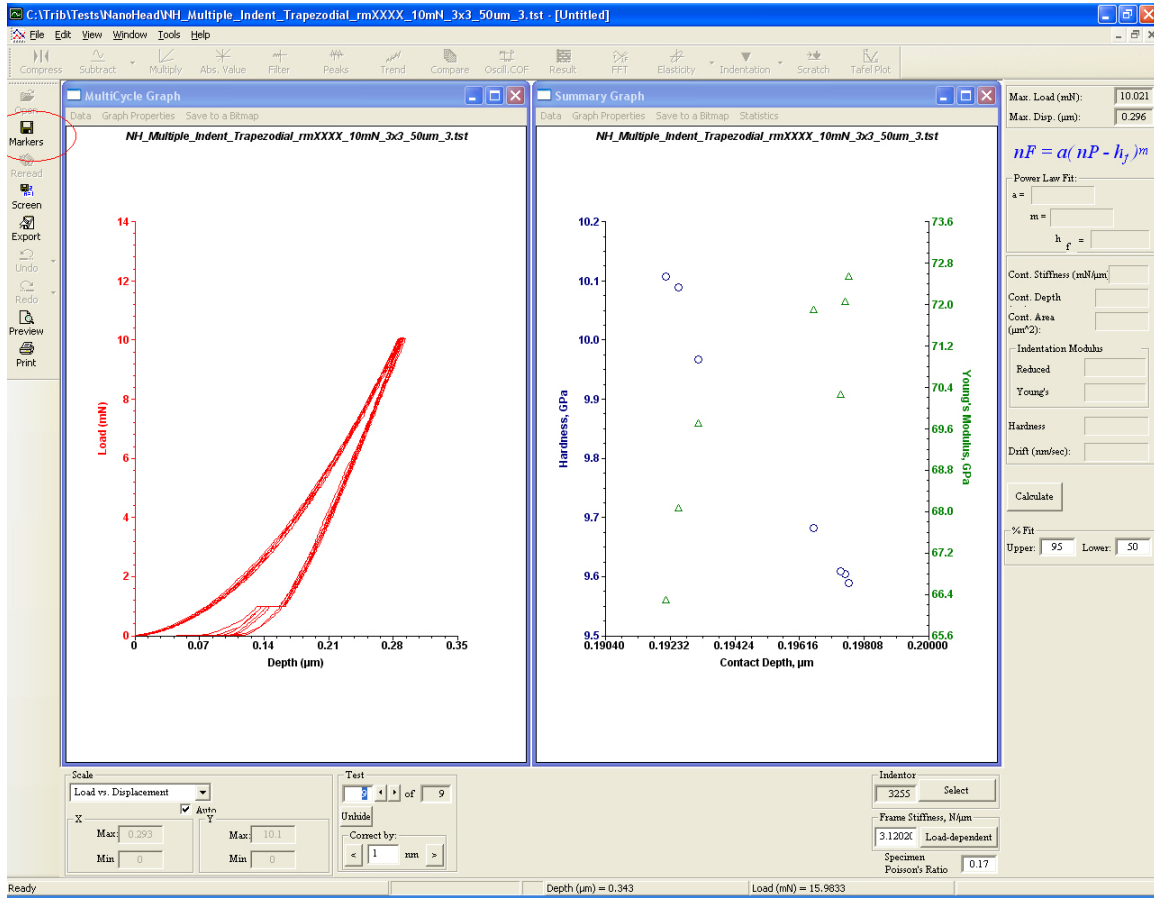

Figure 32: Saving Markers.
11) After the touch points have been corrected by either method the markers must be saved or the process will have to be repeated when the file is re-opened. To do this push the Indentation Button (data process button) and the Load vs. Depth and Hardness/Modulus vs. contact depth graphs will appear, then push the Marker button on the left as indicated in Figure 32.